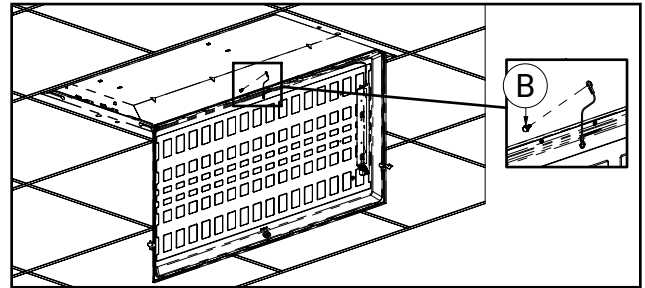

Figure 9.
9. The LED Panel (C) comes with a bonding wire preinstalled. Using the included Self-Drilling Screw, attach the ring terminal on the free end of the bonding wire to the original troffer housing. (Fig. 9).